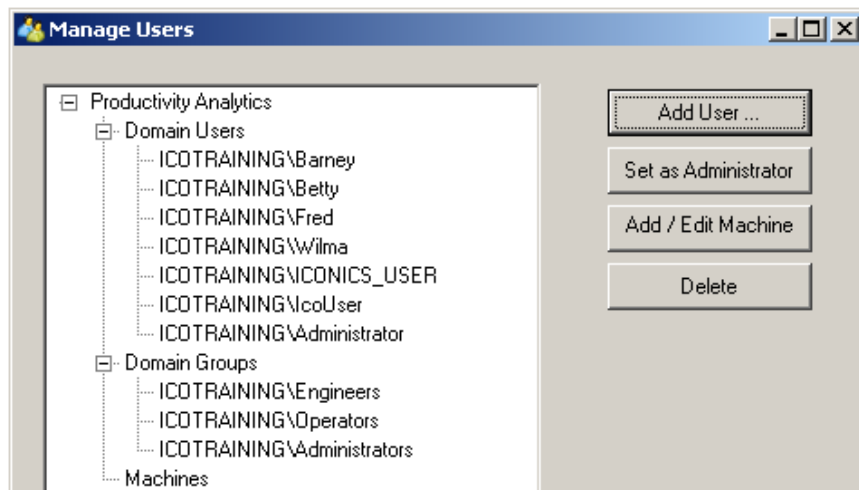

Figure L2.11 - New Users Added
9. Back on the **Manage Users** dialog, the users you selected appear in the Domain Users section, and the Administrators, Engineers, and Operators groups appear in the Domain Groups section, as shown in Figure L2.11.